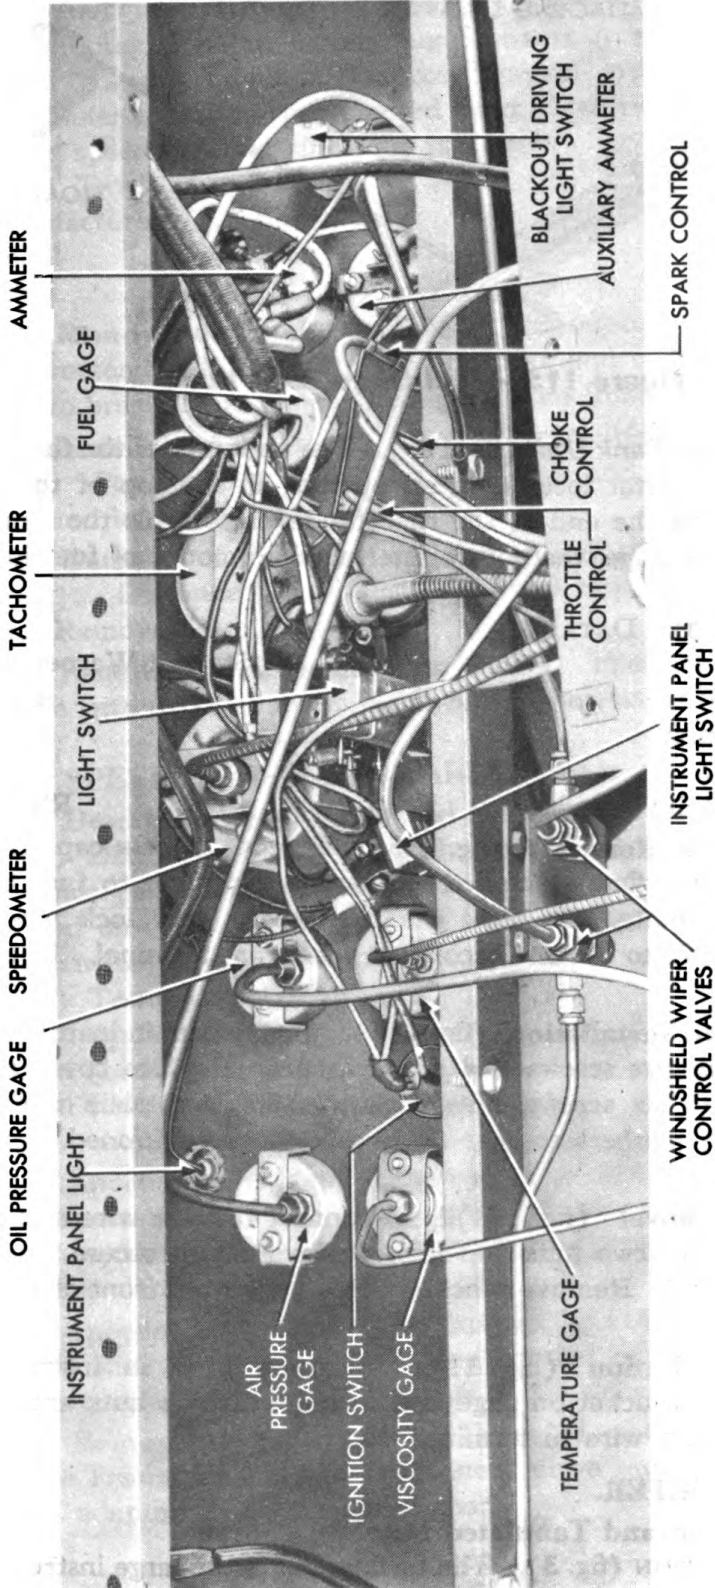

Figure 114 – Instrument Panel – Rear View
b. **Removal** (fig. 114). Disconnect the five wires attached to ammeter. Disconnect the two wires attached to auxiliary ammeter. Note position of wires to make sure they are reconnected properly. Remove the two nuts and lock washers holding each ammeter to bracket and panel. Pull bracket from rear of each ammeter. Pull each ammeter from front of instrument panel.
c. **Installation** (fig. 114). Position each ammeter in instrument panel (fig. 3). Position brackets at back of ammeters and secure each with the two nuts and lock washers. Connect the five wires to the ammeter: red and orange to the terminal on right-hand side of vehicle; black and the two red and black wires to terminal on left-hand side. Connect the two wires to terminal on left side. Connect the two wires to the auxiliary ammeter: green ground to terminal on right-hand side of vehicle; other green to terminal on left-hand side.
d. **Gage Removal** (fig. 114). Disconnect the one wire attached to gage. Remove two nuts and lock washers which secure gage to bracket and panel. Remove bracket. Pull gage from front of instrument panel.
e. **Gage Installation** (fig. 114). Position gage in instrument panel. Position bracket on gage and secure with two nuts and lock washers. Connect wire to terminal.
b. Removal of Head (fig. 114). Disconnect cable from rear of tachometer head. Remove the two nuts and lock washers securing gage to bracket and panel. Pull gage from front of instrument panel.
c. Installation of Head (fig. 114). Position gage in instrument panel. Position bracket on back of gage and secure with the two nuts and lock washers. Attach cable.
b. Speedometer Head Removal (fig. 114). Disconnect cable from speedometer head. Remove the two wing nuts and lock washers which secure bracket to speedometer and panel. Remove bracket. Pull speedometer from front of panel.
c. Speedometer Head Installation (fig. 114). Position speedometer in instrument panel. Position bracket on back of speedometer and secure with the two wing nuts and lock washers. Attach cable.
(1) **REMOVAL** (figs. 114 and 116). Disconnect cable from speedometer and transfer case by screwing out nut which secures each. Detach clip holding cable to frame side rail. Remove cable.
(2) **INSTALLATION** (figs. 114 and 116). Position cable between transfer case and speedometer on instrument panel. Attach nut which secures each. Attach clip which holds cable to frame side rail.
b. Removal (fig. 114). Remove tube nut which secures tube to rear of gage. Remove two nuts and lock washers which secure bracket to gage and panel. Remove bracket. Pull gage from front of panel.
c. Installation (fig. 114). Position gage in instrument panel. Position bracket at back of gage and secure with two nuts and lock washers. Attach tube by securing with tube nut.
b. Removal (fig. 114). Detach nut which secures wire to gage. Remove two nuts and lock washers which secure bracket to gage and instrument panel. Remove bracket. Pull gage from front of panel.
c. Installation (fig. 114). Position gage in instrument panel. Position bracket at rear of gage and secure with two nuts and lock washers. Attach wiring to gage by installing the nut which secures it.
b. Removal (fig. 114). Detach tube nut which secures tube to gage. Remove two nuts and lock washers which secure bracket to gage and instrument panel. Remove bracket. Pull gage from front of instrument panel.
c. Installation (fig. 114). Position gage in instrument panel. Position bracket at back of gage and secure with two nuts and lock washers. Attach tube to gage by installing the tube nut.
b. Removal (fig. 114). Disengage tube nut which secures tube to gage. Remove two nuts and lock washers which secure bracket to gage and panel. Remove bracket. Pull gage from front of instrument panel.
c. Installation (fig. 114). Position gage in instrument panel. Position bracket at back of gage and secure with two nuts and lock washers. Attach tube to gage by securing with the tube nut.